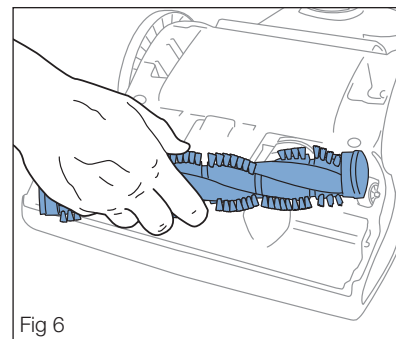

Fig 6
- Lift end of brush roll farther from belt (Fig. 6).